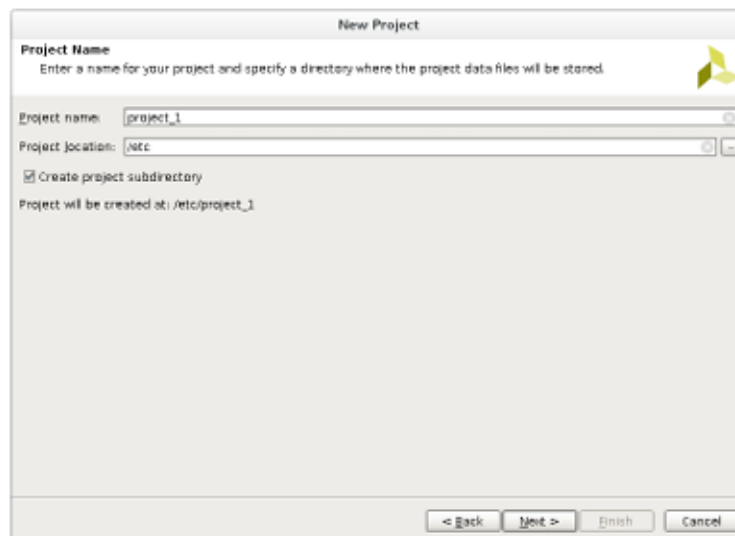

Figure 1: Create New Project
- Once in Vivado, select File Create New Project. The New Project Wizard opens. Click Next. (Figure 1).